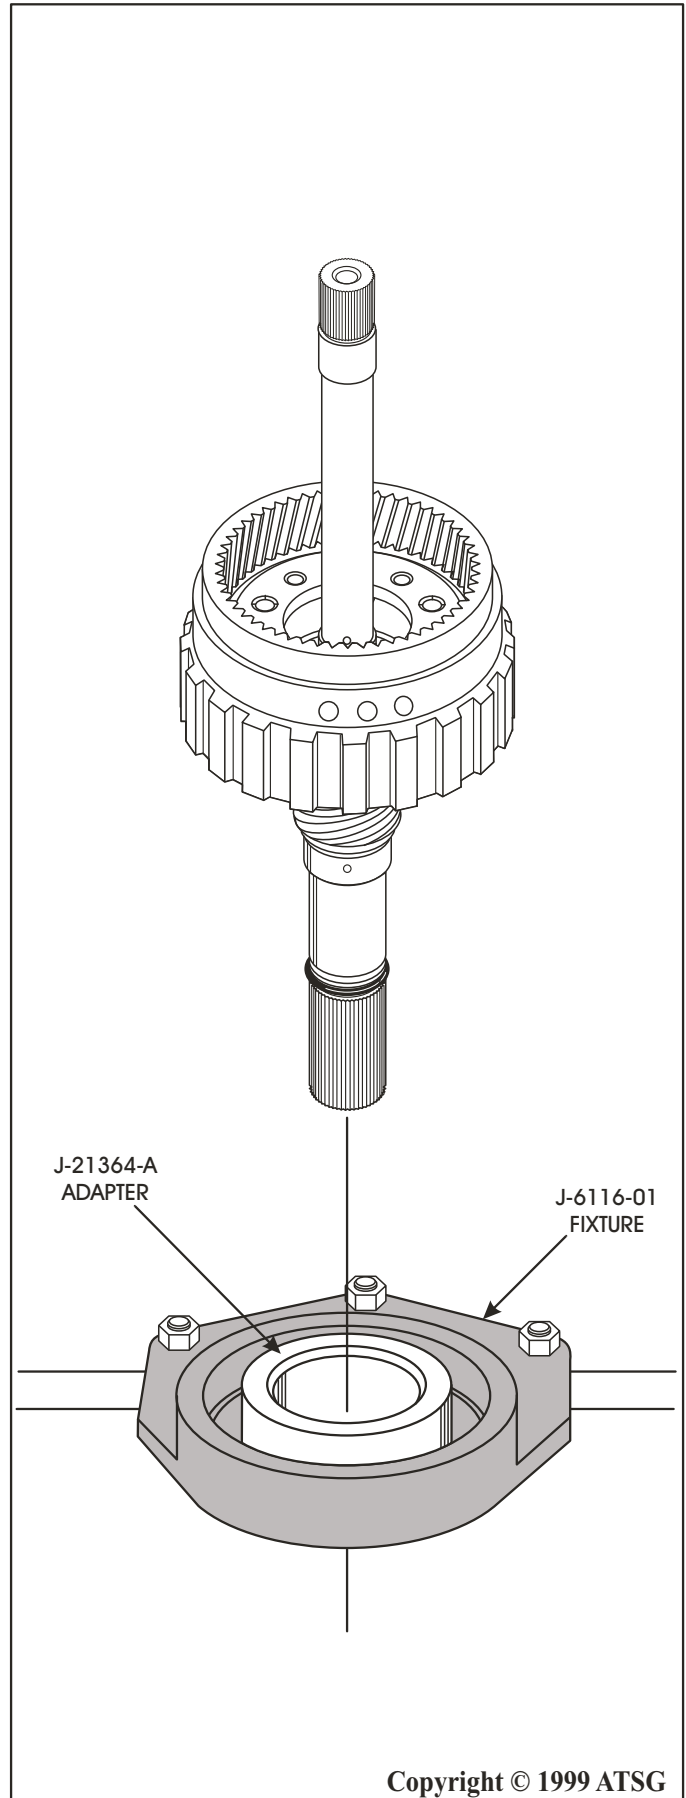

Figure 63
21. Set the entire assembly into the bench fixture as shown in Figure 63, to finish the assembly process for the geartrain.